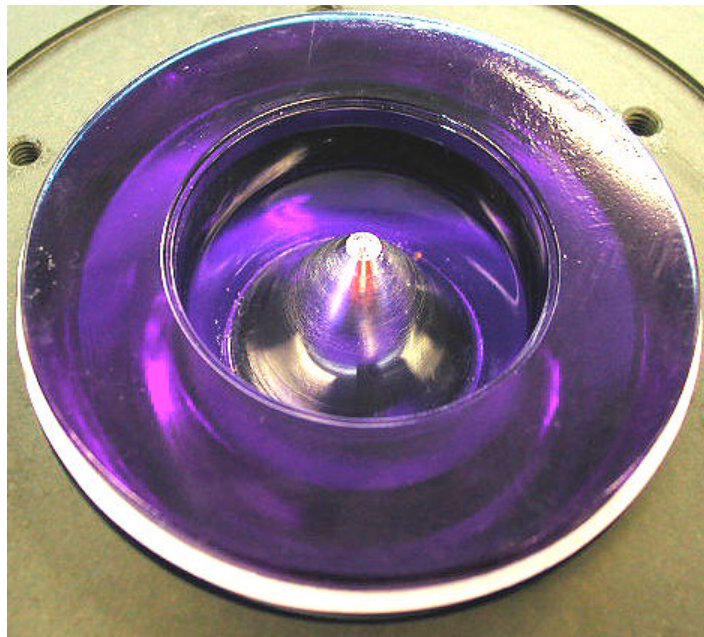

Fig. 8. Close up of reflector in prism.
- Check that reflector (19) in the roof of the glass prism (18), is un-damaged. See Fig. 8.